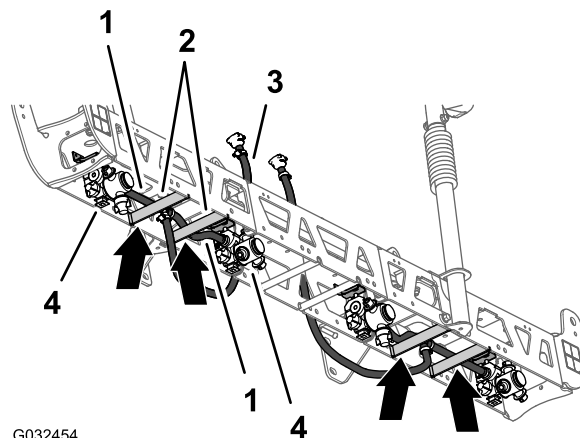

Figure 59
1. Route the hose 13 mm (10 inches) and nozzle assembly between the truss braces of the outer truss (Figure 59).
2. Route the hose and nozzle above the truss brace and outward to the outboard nozzle mount (Figure 59).
4. Route the other hose 13 mm (10 inches) and nozzle assembly between the s truss braces of the outer truss (Figure 59).
5. Route the hose and nozzle above the truss brace and inward to the inboard nozzle mount (Figure 59).
8. Route the hose and barbed coupler 13 x 810 mm (1/2 x 32 inches) to the side of the center-spray section with the left and right support brackets (Figure 59).
9. Repeat steps 1 through 8 for the other hose and nozzle assembly at the other outer truss (Figure 59 and Figure 60).